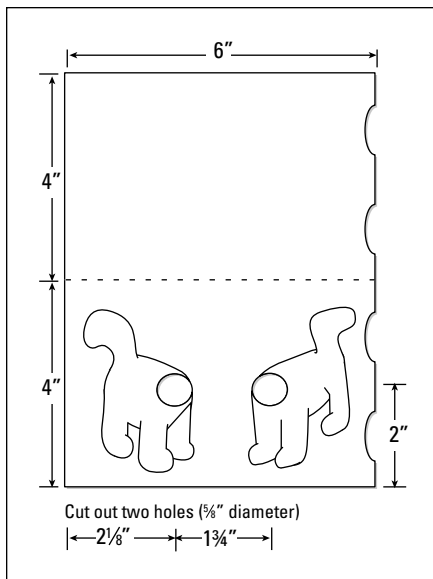

Figure 7-14:
1. Take a full sheet of card and mark it up as shown in Figure 7-14.